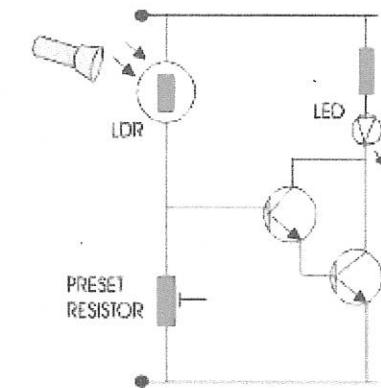

Figure C1a / Rajah C1a
- a. Figure C1a shows the light sensor circuit. Explain the operation of the circuit.